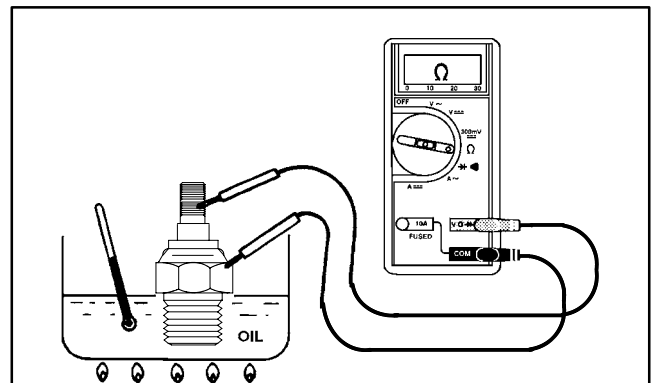

Figure 54
3. Put the end of the sender in a container of oil with a thermometer and slowly heat the oil (Fig. 54).